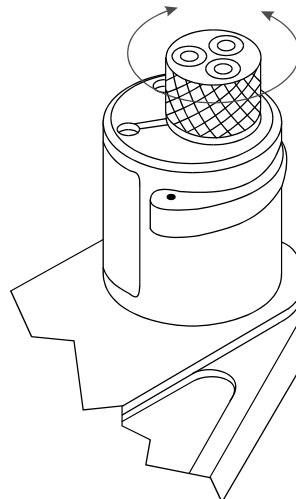

Figure 10-22 Crimp Tool Build Up and Adjustment
- d. With the positioner extended, rotate, as shown in Figure 10-22 to select the matching colour index mark.